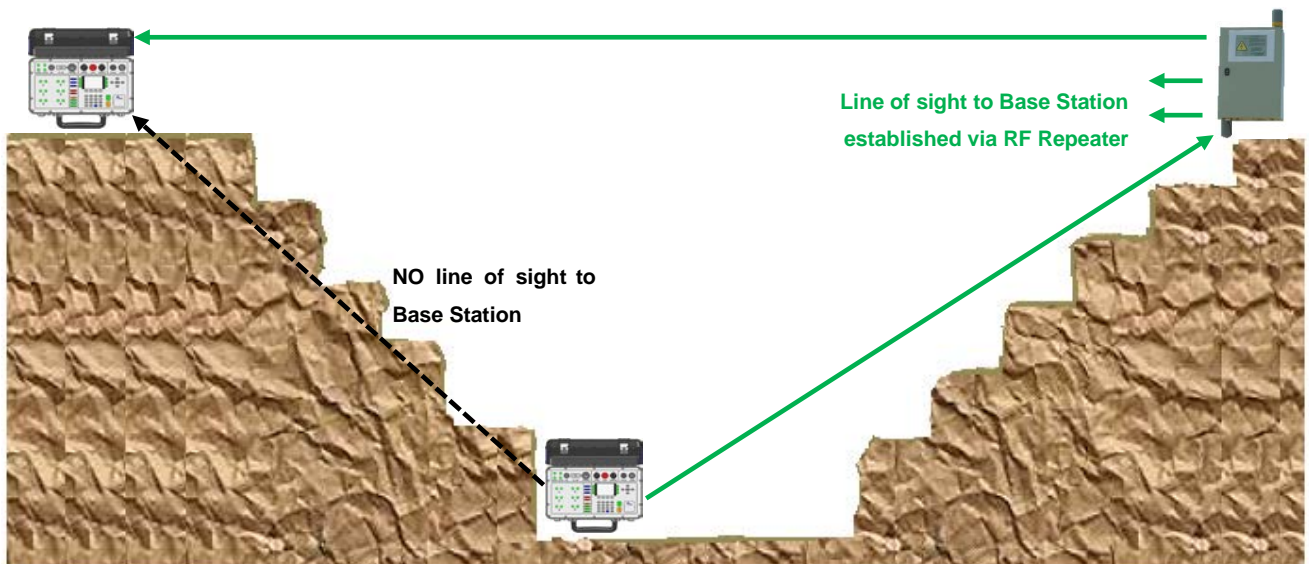

Figure 1: Line of sight clarification
- Figure 1: Line of sight clarification 9